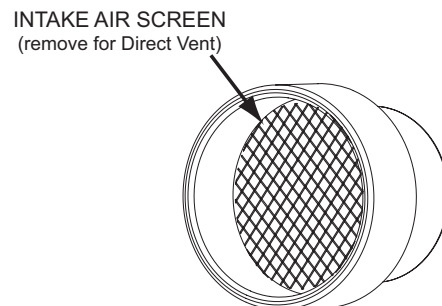

**Figure 32. Intake Air Condensate Tee Installation**
8. A field-supplied condensate tee fitting and drain hose must be installed in the intake-air piping near the water heater in colder climates with heavy snow accumulations and in areas that regularly experience high humidity. The drain hose must be routed to an adequate floor drain separate from any other condensate drain hoses. See *Figure 32* (page 36).
Installations with any of these conditions are required to provide a moisture drain with a trap that flows to a waste drain. See Figure 32 (page 36) and Figure 58 through Figure 64 (page 47). A horizontal section of the air-inlet pipe near the heater should include a 4" x 4" x 1/2" (119 gallon) and 3" x 3" x 1/2" (60/100 gallon) tee and a hose barb fitting to drain the water. The tee should be as close to the heater as is practical. The drain tubing in any installation should have a loop trap and flow to an appropriate waste drain. The air-intake drain line must be entirely separate from the exhaust vent outlet condensate drain line.